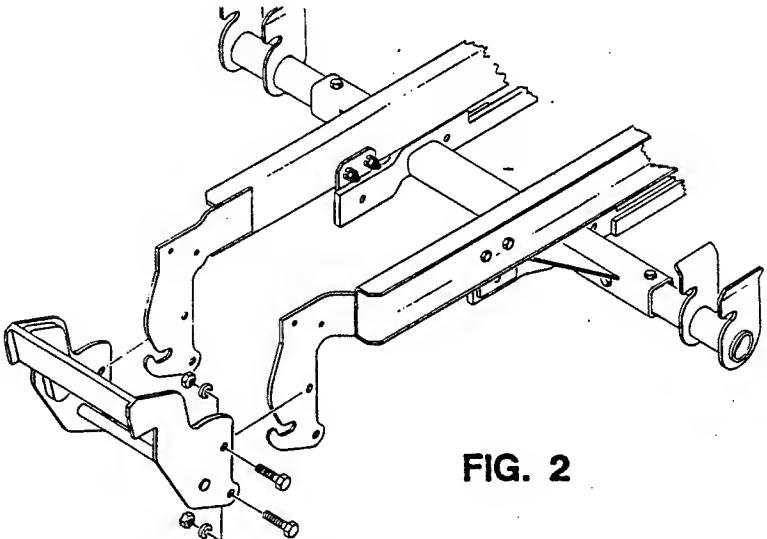

FIG. 2
- Attach the front mount to the front of the tractor frame. Use (2) 5/8-11 x 2 hex head capscrews, lockwashers and nuts on both sides. See Fig. 2.